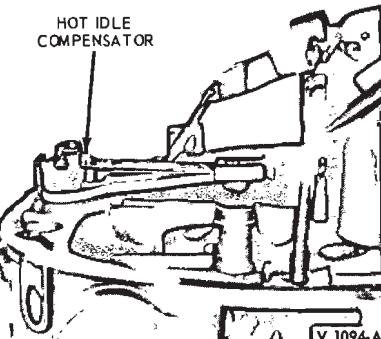

FIG. 15—Hot Idle Compensator
5. On carburetors equipped with a hot idle compensator, be sure the compensator is seated to allow for proper idle adjustment (Fig. 15).